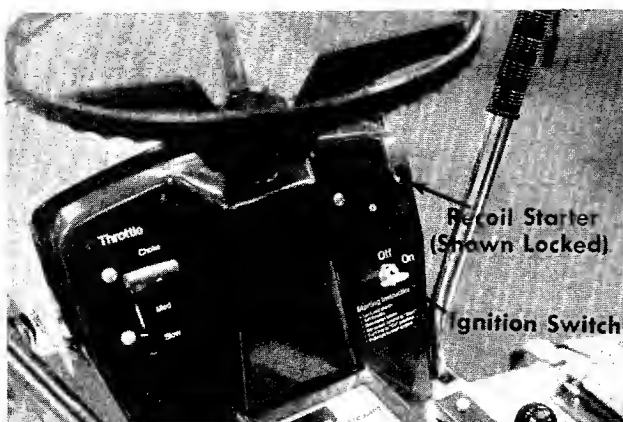

FIGURE 9. RECOIL STARTER
Recoil Model. See figure 9. Turn the key to the ON position when starting the engine. To stop the engine turn the key to the left to the OFF position and remove the key to prevent accidental starting.
k. Recoil Starter. The recoil starter is located on the right side of the dashboard. The recoil starter can either be pulled while seated on the rider or pulled while standing behind the rider. The ignition key must be on before the engine will start. After the engine starts, the recoil starter handle must be returned and locked into the dashboard before the blades or clutch are engaged. The engine will stop if you do not follow these instructions. See figure 9.